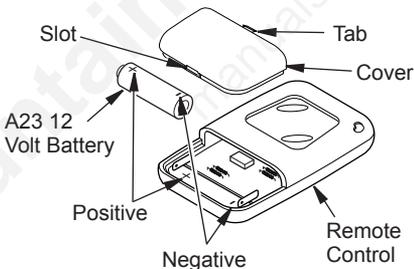

Figure 45 - Installing Battery
1. Locate slot at bottom of remote control (see Figure 45). Firmly insert tool such as a small screwdriver, butter knife or dime into the slot and lift up to remove cover.